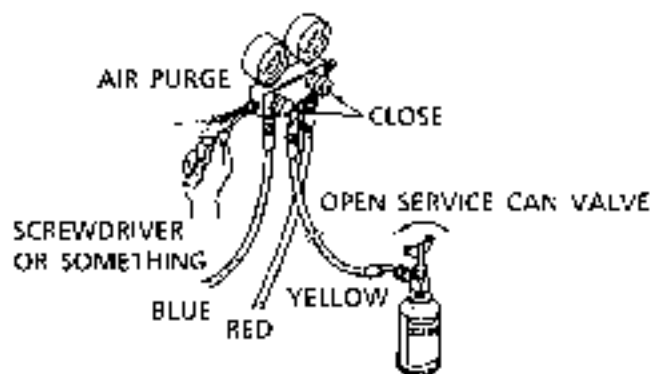

Fig. 26 Gas filling operation
(1) Filling from High Pressure Side (See Fig.26.)
Open the service can valve. (However, close the high and low pressure valves of the gauge manifold.) Then push the mini valve of the side service port on the low pressure side of the gauge manifold, using a screwdriver or something, in order to let out the air in the charging hose by the pressure of the refrigerant. (See Fig.26.) (The operation ends when a hissing sound is heard.)